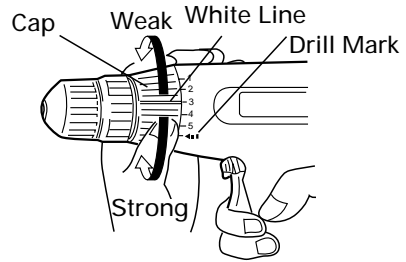

Fig. 12
Set the cap's white line between "1" and "3" on the housing. (Fig. 12)
- For use as a drill, set the white line at the drill mark "🔩". (Fig. 12)
Tightening power must be changed according to the screw type, screw size and the materials to be tightened. The amount of tightening power is indicated by the numbers "1", "2", "3", "4", and "5" located on the housing. "1" is the minimum tightening power. "5" is the maximum tightening power. (Fig. 12)